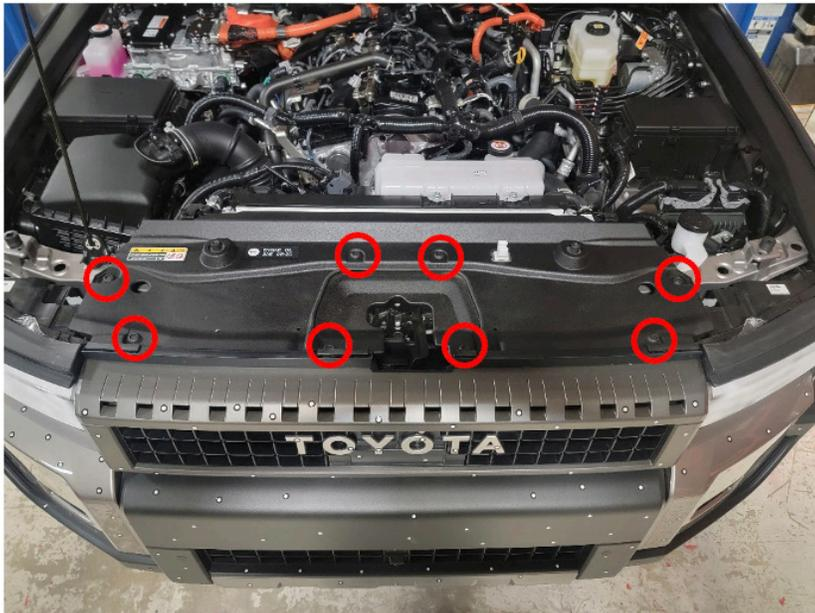

Figure 1.
1. Open the hood and remove the 8x push pins holding the plastic grill cover to the radiator support and grill. Remove the plastic grill cover. Figure 1.